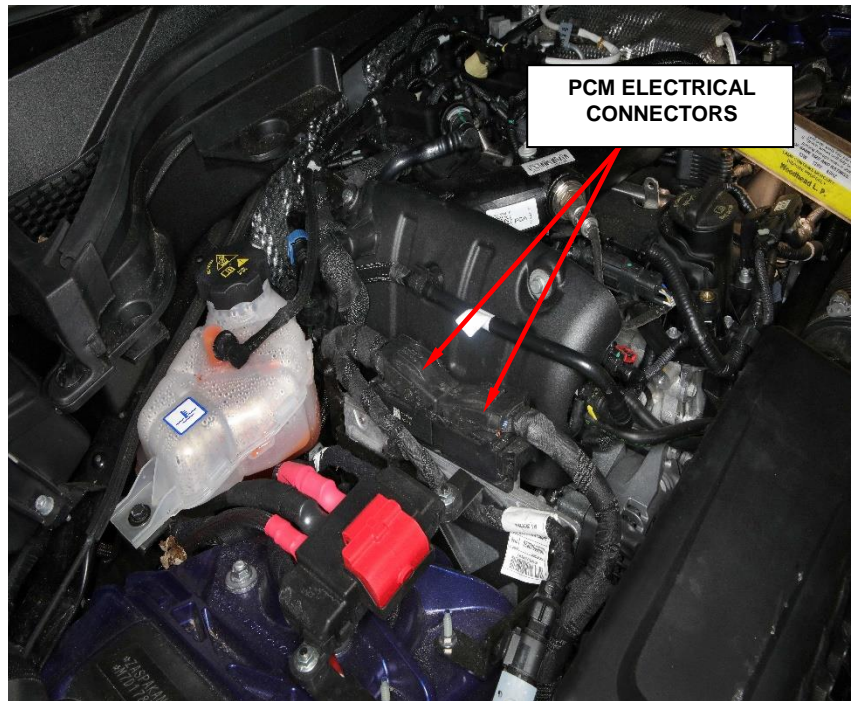

Figure 7 – PCM Electrical Connectors
10. Unlatch and disconnect the Powertrain Control Module (PCM) electrical connectors (Figure 7).
7. Reconnect the PCM electrical connectors (Figure 7).